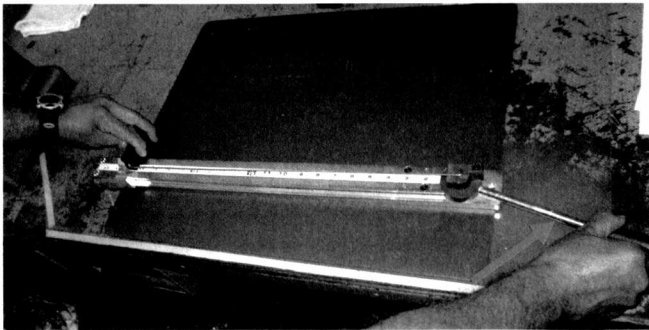

Figure 11.
- 11.) Holding the float against the float stop, push the handle all the up to bend the wire (Figure 11 & 12)